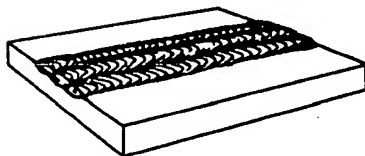

Figure 3-17.—Surfacing welds.
**Surfacing** is a welding process used to apply a hard, wear-resistant layer of metal to surfaces or edges of worn-out parts. It is one of the most economical methods of conserving and extending the life of machines, tools, and construction equipment. As you can see in figure 3-17, a surfacing weld is composed of one or more stringer or weave beads. Surfacing, sometimes known as **hardfacing** or **wearfacing**, is often used to build up worn shafts, gears, or cutting edges. You will learn more about this type of welding in chapter 6 of this training manual.